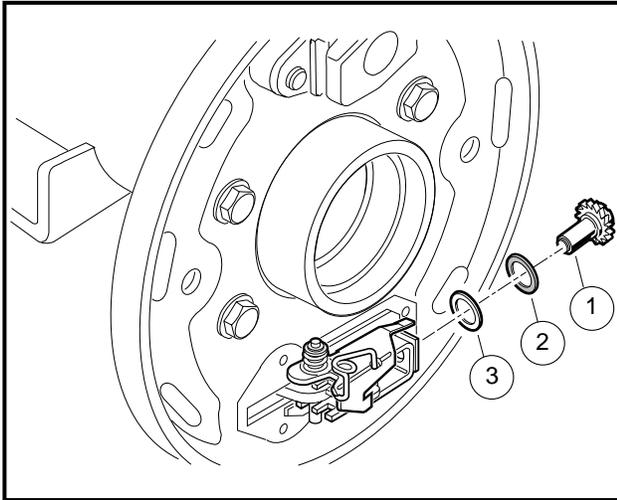

Figure 6-7 Remove Adjuster Wheel
- Remove adjuster wheel (1) with two washers (2 and 3) from the backing plate (**Figure 6-7, Page 6-6**).
- Install the adjuster wheel into the adjuster assembly (**Figure 6-7, Page 6-6**).